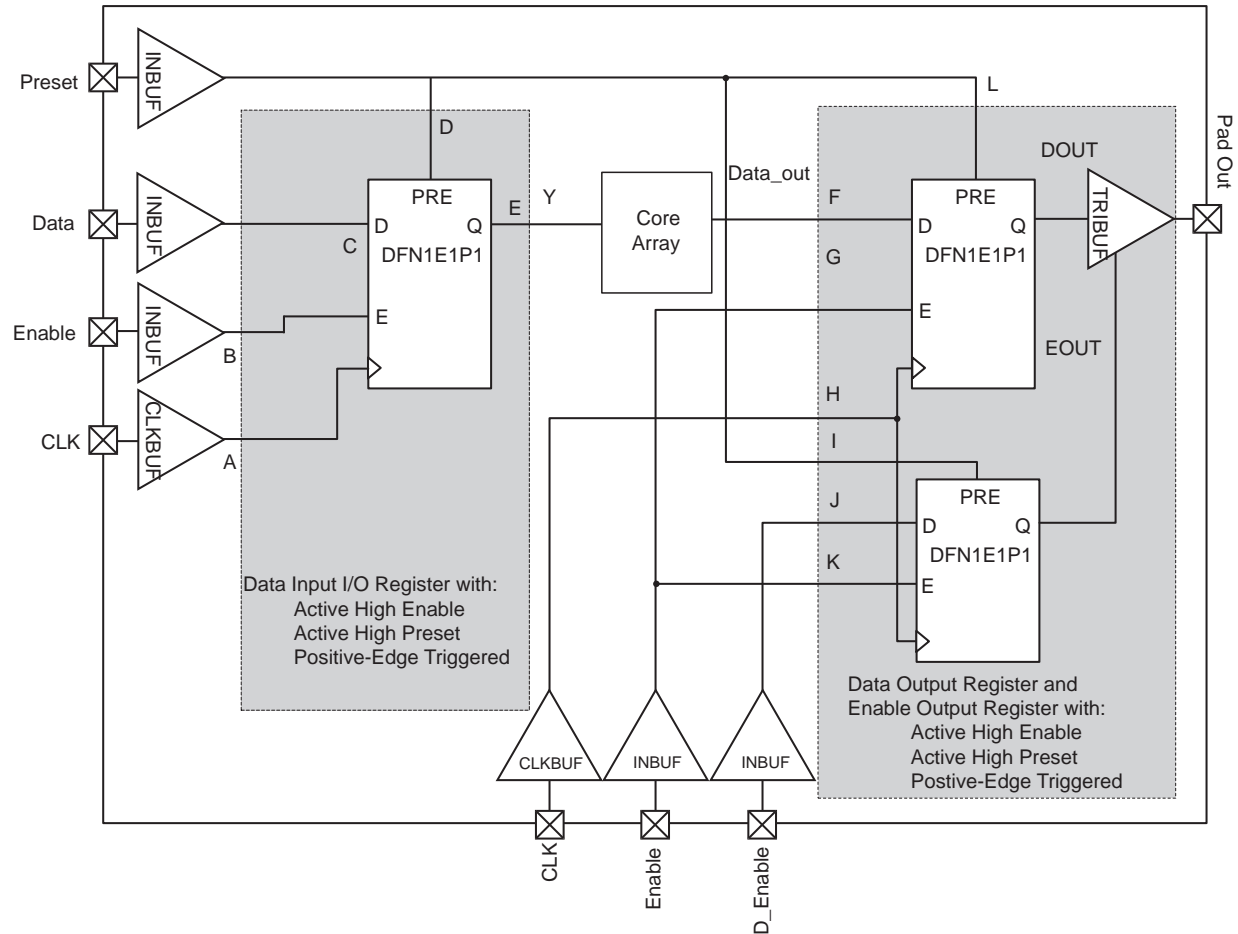

Figure 2-26 • Timing Model of Registered I/O Buffers with Synchronous Enable and Asynchronous Preset
* See Figure 2-26 on page 2-99 for more information.